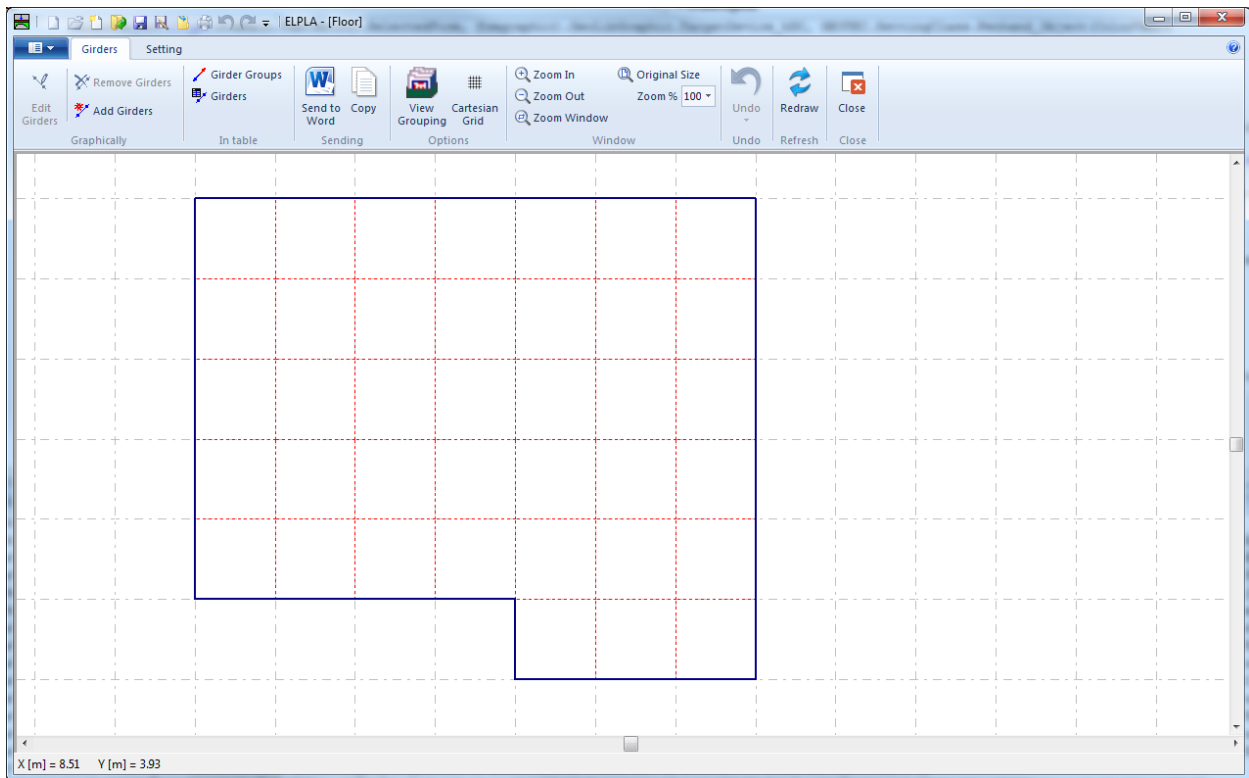
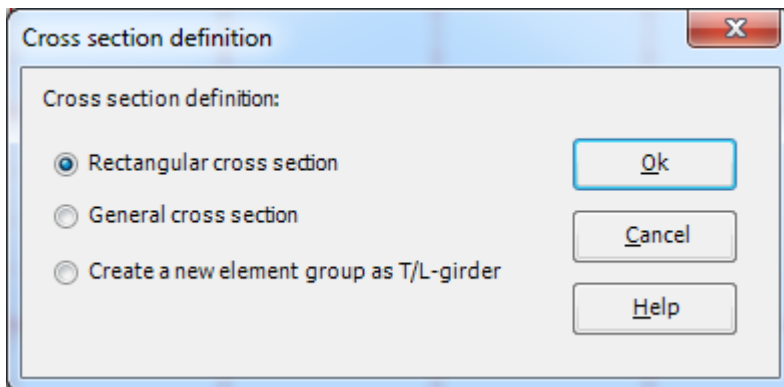

Figure 2.13 "Girders" Window
Figure 2.14 "Cross section definition" option box
To define the girders choose "Girders" command from "Data" Tab. The following Window in Figure 2.13 appears.
- Choose "Girder Groups" command from "In table" menu in Figure 2.13. The following option box in Figure 2.14 appears
- Choose "Add Girders" command from the "Graphically" menu in Figure 2.13. When "Add Girders" command is chosen, the cursor will change from an arrow to a cross hair